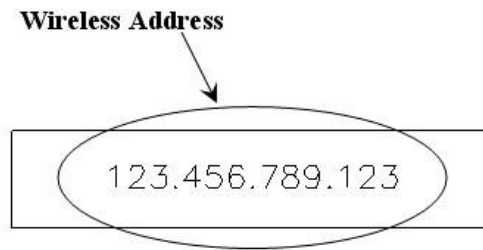

Figure 5-1 – Wireless Address
- The wireless address for this unit. See Figure 5-1. This label is located on the SDT 5000 antenna.